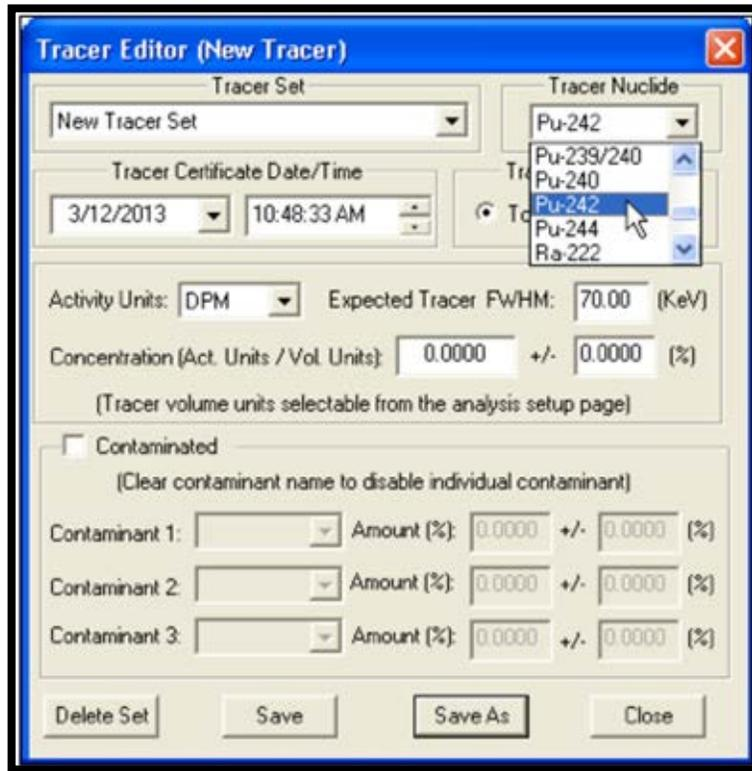

Figure 62. Tracer Nuclide Drop-Down List
- 2) Click the **Tracer Nuclide** drop list and select the desired nuclide (Figure 62).